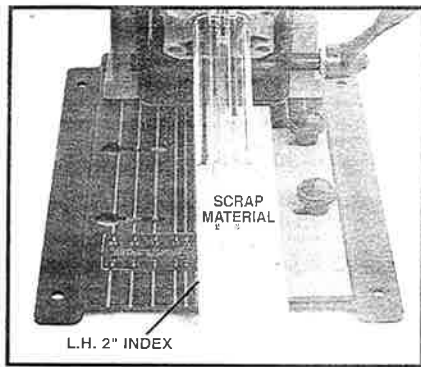

Fig. 8
5. Rotate the work clamp lever COUNTERCLOCKWISE to the CLAMPED position (see Fig. 8). The scrap material should now be FIRMLY clamped to the Pocket Cutter base. If the clamp is too tight (will not fully close to the CLAMPED position), repeat steps 1 through 5, RAISING the clamp assembly slightly. If the clamp is too loose (material is not FIRMLY clamped), repeat steps 1 through 5 LOWERING the clamp assembly slightly.
3. Place a piece of scrap material (same width as planned work) onto the Pocket Cutter base and align the LEFT side of the material (see Fig. 8) with the LEFT rib index (corresponding to material width). Seat material against the drill guide bushing.